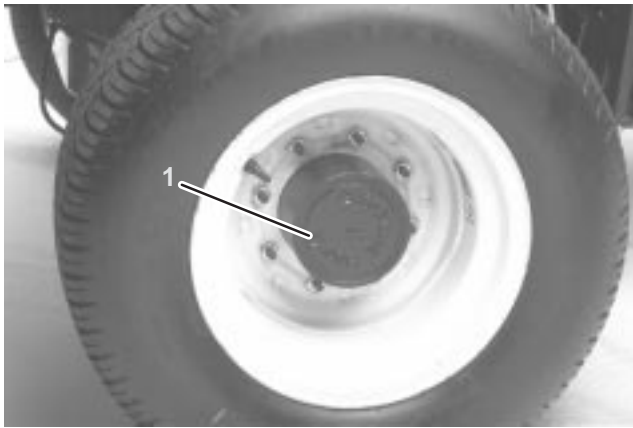
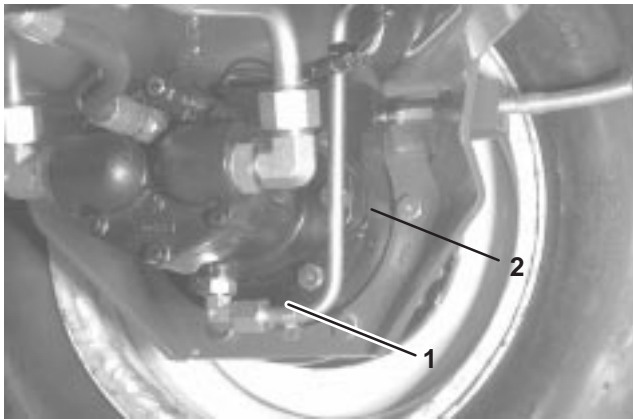

Figure 19
Figure 20
1. With machine on level surface, position wheel so the check/drain plug (Fig. 19) is at either 2 or 10 o'clock position.
2. Remove the plug on the planetary (Fig. 19) and the check plug on the back side of the brake (Fig. 20). Oil should be at the bottom of the check plug hole on front and back side of the brake.